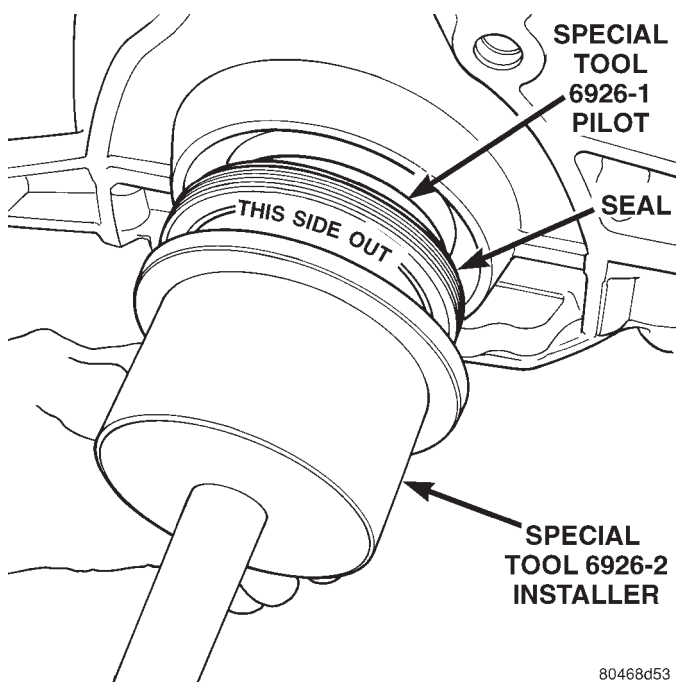
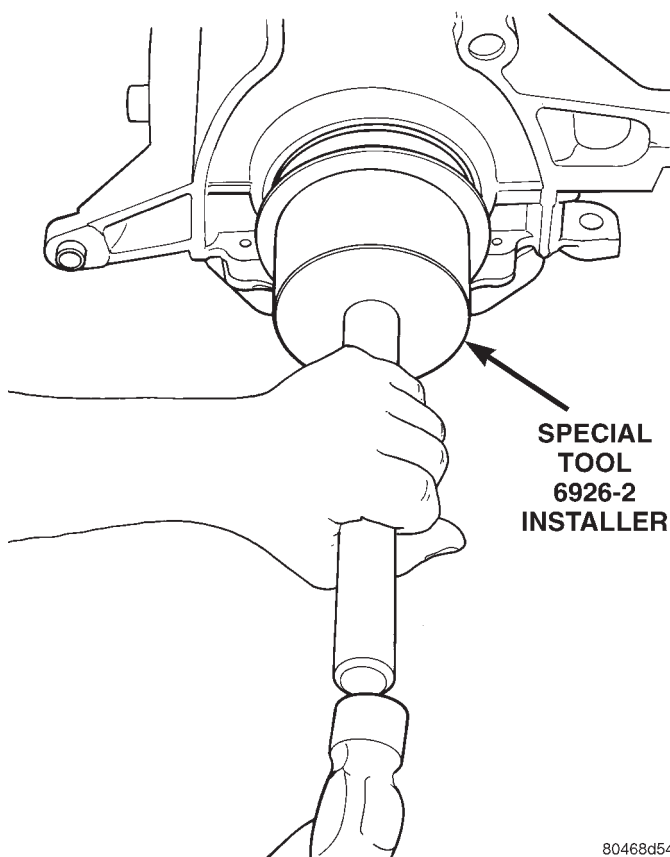

Fig. 61 Crankshaft Seal Special Tool 6926-2
Fig. 62 Rear Crankshaft Seal—Installation
- (3) Drive the seal into the block using Special Tool 6926-2 and handle C-4171 (Fig. 61) until the tool bottoms out against the block (Fig. 62).